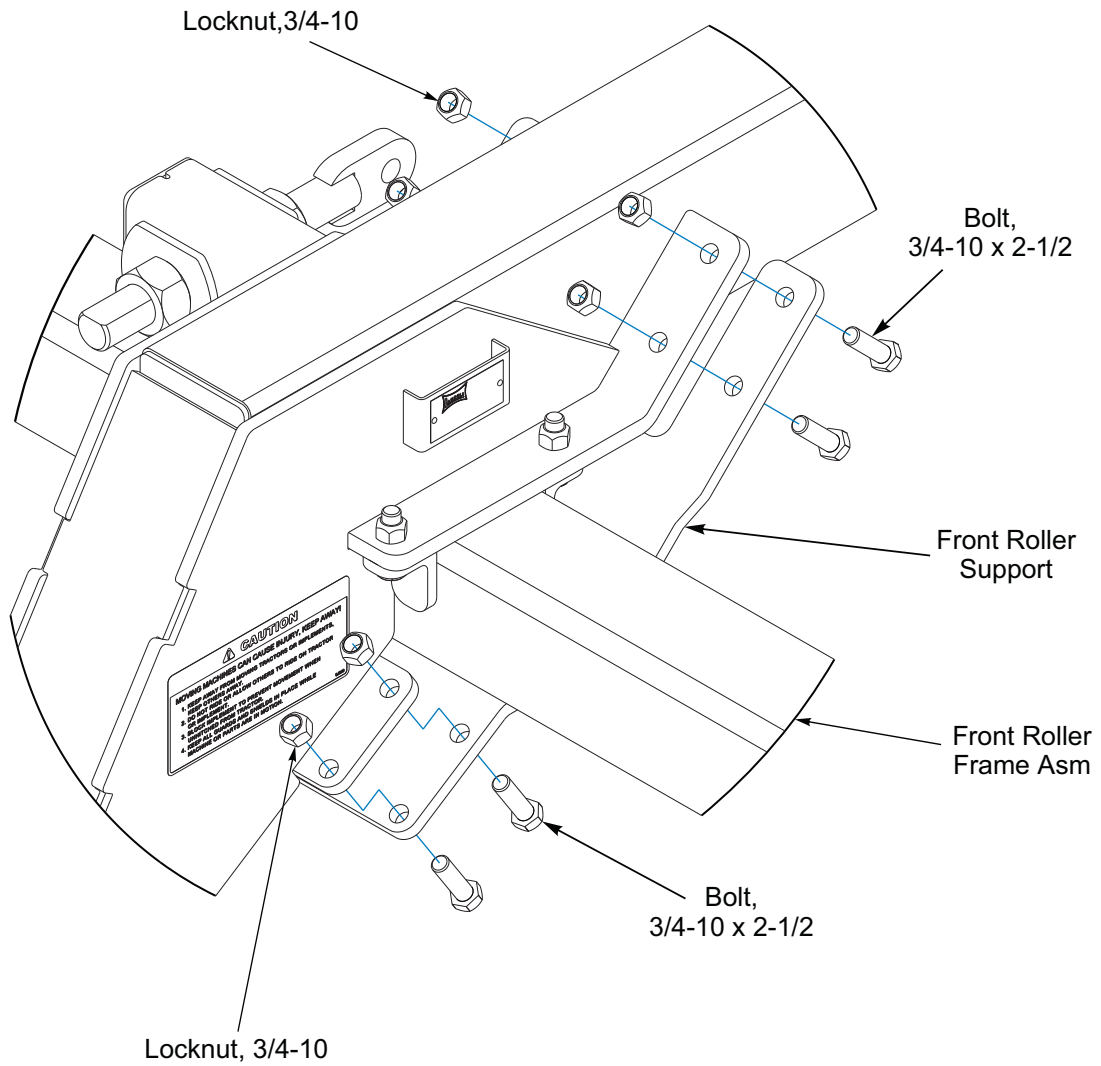

Figure 2-1: Front Roller Support
7. On the inside frame, position the Front Roller Support Plate under the Front Roller Frame Tube and secure with eight 3/4-10 x 2-1/2 Bolts and Locknuts. **See Figure 2-1.**